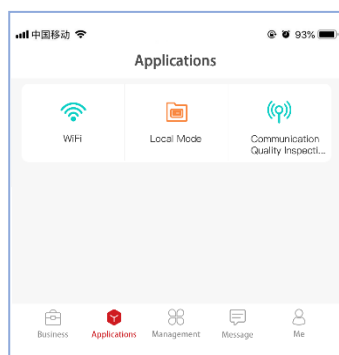

FIG. 8 Enter local Mode
- 2) Enter the "Local Mode", as per FIG.8;